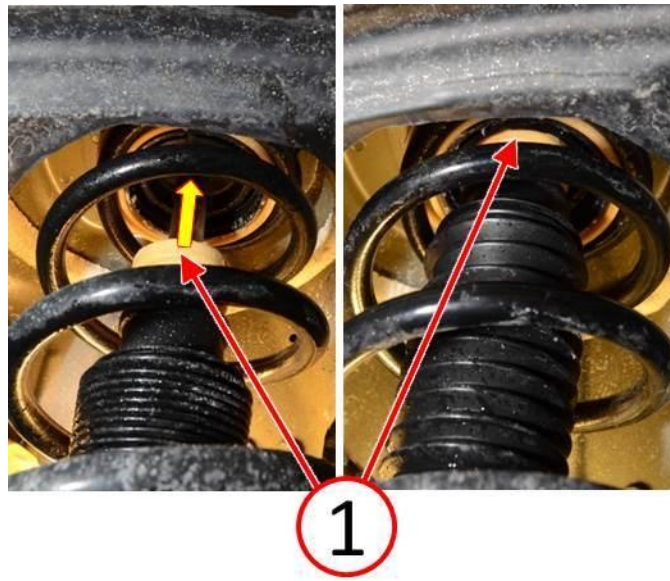

Fig. 4 Raise Jounce Bumper
6. Push the jounce bumper back up to the strut mount bushing (Fig. 4).